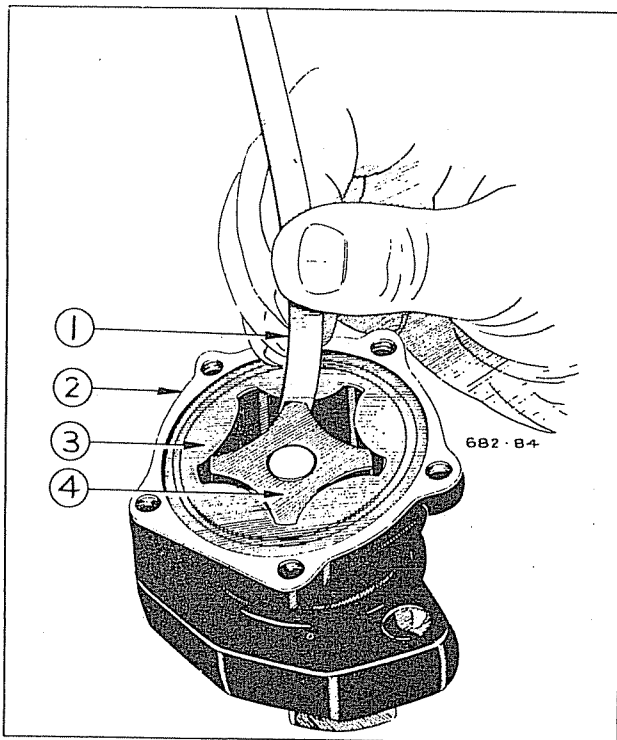

Fig. 35—Measuring Clearance Between Inner and Outer Rotors.
- (1) Remove cover and gasket.
- (2) Hold hand over cover opening, invert the pump and turn drive shaft until the outer rotor slides out.
- (3) Drive out the pin which secures the drive gear to the pump shaft.
- (4) Press the shaft from the drive gear and remove shaft and inner rotor assembly from the pump body.
- (5) Wash all parts in dry cleaning solvent and dry with compressed air.
- (6) Match the rotors together similar to the way they would be if in the pump with one lobe of the inner rotor pushed as far as possible into a corresponding recess in the outer rotor. (Figure 35) and if more than .010 inch, replace both rotors.